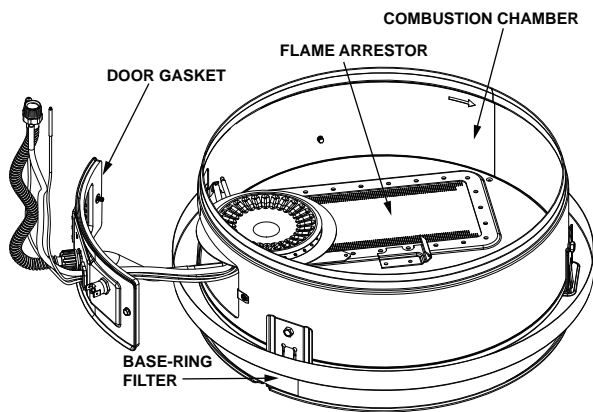

FIGURE 28.
1. At least once annually, check the base-ring filter (Figure 28) for any dust or debris that may have accumulated on the filter screen. NOTE: If the water heater is located in an area that is subjected to lint and dirt, it may be necessary to check the base-ring filter more frequently.
2. Use a vacuum cleaner/shop vac to remove all loose debris in the combustion chamber (Figure 28). Use compressed air to clear any dust or debris that may have accumulated in the flame-arrestor.
1. Check the door gasket for damage or imbedded debris prior to installation (Figure 28).
4. Inspect the door gasket and make sure there is no fiberglass insulation between the gasket and the combustion chamber (Figure 28).